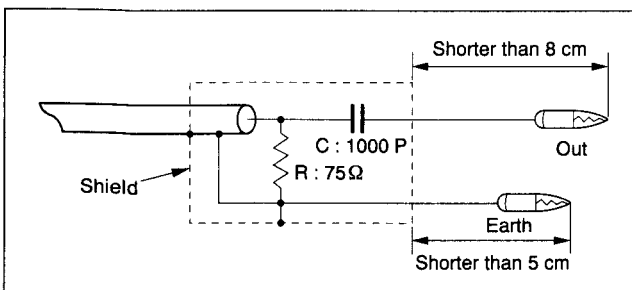

Fig. 3-9-1 Sweeper probe
- (1) Use a sweeper probe as shown in Fig. 3-9-1.
- (2) Supply 1 kHz R-only modulated IF signal to IF terminal of U/V tuner (front end).
- (3) Connect an oscilloscope to IC101-pin48.
- (4) Adjust R45(R1145) for minimum output level.